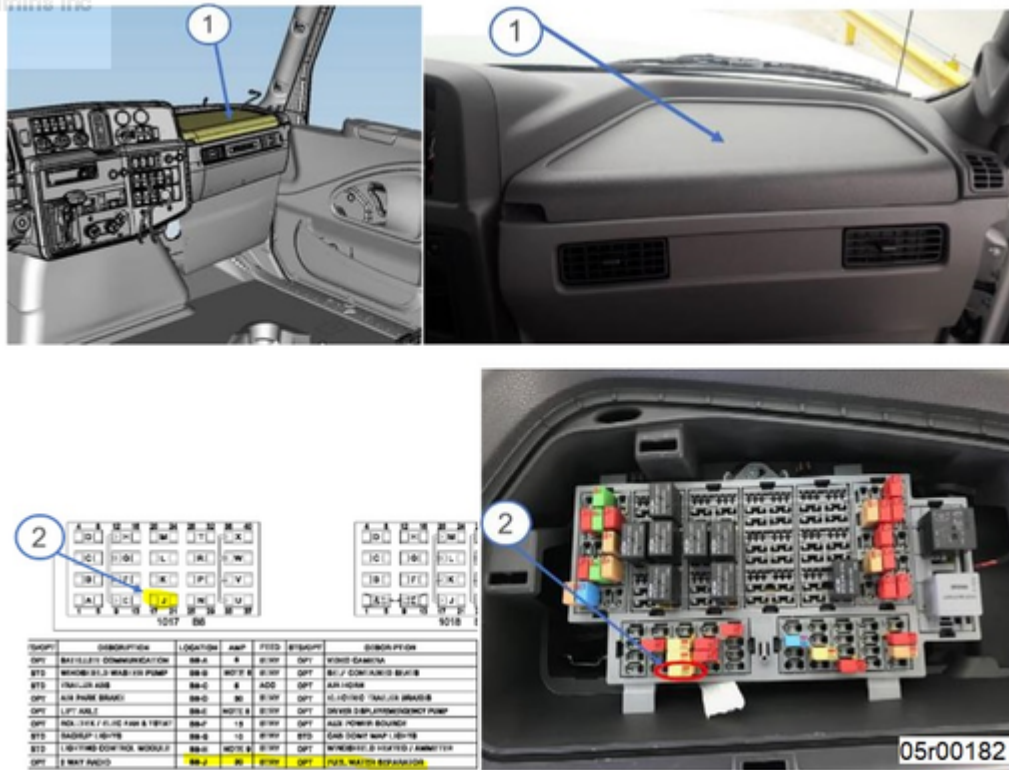

Figure 9, Location of 20A Fuse on Navistar® MV/HV.
2. Remove fuse supplying power to engine fuel heater. See model specific instructions in Figure 7, Figure 9, and Figure 10 below.
1. Remove fuse powering engine fuel heater circuit on chassis. See model specific instructions in Figure 7, Figure 9, and Figure 10 below.
1. Remove fuse powering engine fuel heater circuit on the OEM chassis. See model specific instructions in Figure 7, Figure 9, and Figure 10 below.
2. Remove cover of fuse box, located on passenger side dashboard. See Figure 9 below.
3. Remove 20 amp fuse located at B8-J cavity 17-21. See Figure 9 below.